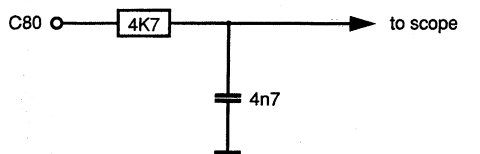

Fig. 7.2
- Connect oscilloscope to capacitor C80 via matching circuit as shown in Fig. 7.2